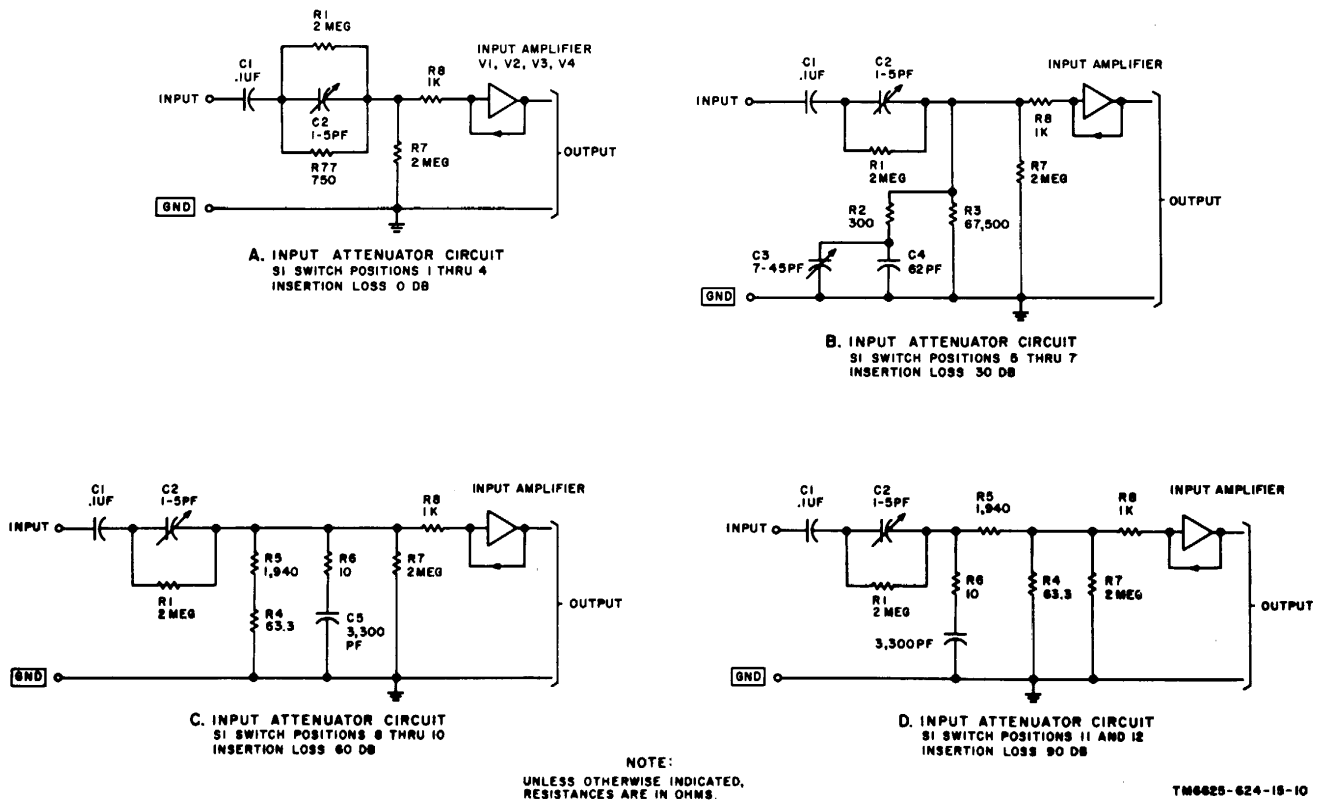

Figure 5-4. Input attenuator circuits.
there is a 0-decibel insertion loss (fig. 5-4 (A)).
- (b) For the fifth through the seventh switch positions, there is an insertion loss of 30 decibels (fig. 5-4 (C)).
- (c) For the 8th through the 10th switch positions, the insertion loss is 60 decibels (fig. 5-4 (B)).
- (d) For switch positions 11 and 12, the insertion loss is 90 decibels (fig. 5-4 (D)).
- (3) The network input impedance is 2 megohms up to a frequency of 25 kilocycles. Above this frequency, capacitors C2 and C3 will add their effective reactance ratios to keep the attenuation constant. These capacitors are adjusted as needed by applied maintenance procedures.